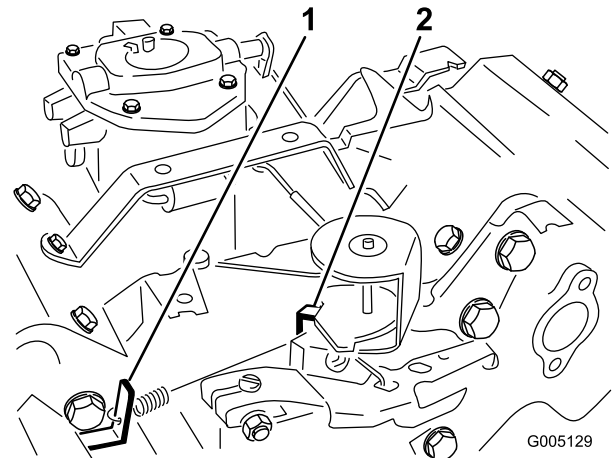

Figure 47
3. Bend the governed idle spring anchor tang (Figure 47) to attain an idle speed of 1650 ± 100 RPM. Check the speed with a tachometer.
5. Move the throttle control to the Fast position. Bend the high speed spring anchor tang (Figure 47) to attain a high speed of 2850 ± 50 RPM.